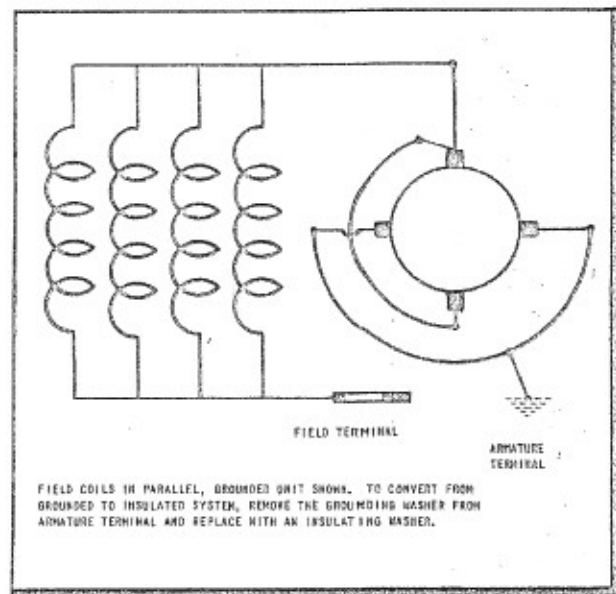

Figure 1—Schematic Internal Wiring Diagram
(1) BRUSH BOARD ASSEMBLY.—With the brushes removed from the brush boxes, connect one terminal of a 110- or 220-volt lamp circuit to the brush box and touch the other lamp circuit terminal to the motor housing. The lamp will light if the board is grounded. Repeat procedure for other three brush boxes. If the board is grounded, replace it by removing the two brush board screws which secure it to the end of the motor housing.
(2) GROUNDED FIELD CIRCUIT.—To test for a grounded field circuit, connect one terminal of a 220-volt lamp circuit to one of the field coil terminals, the other field terminal being free. Touch the other terminal of the lamp circuit to the yoke momentarily. The lamp will light if the field is grounded. If the field coils have to be replaced due to a grounded circuit, proceed as outlined under paragraph 8.g., this section.
(3) OPEN FIELD CIRCUIT.—Since the field coils are connected in parallel (see figure 1), a lamp circuit